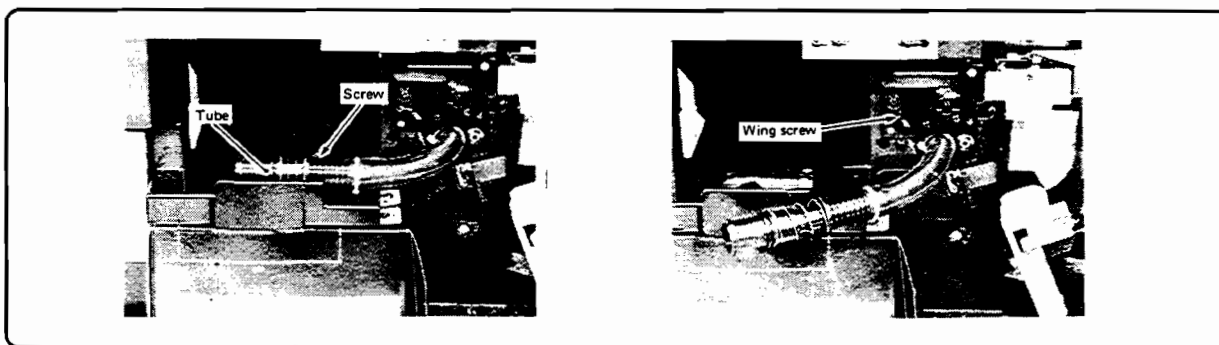

Figure 6-69. Cleaning Station Removal
2. Remove the screw to release the flexible tube from the top of the waste toner receptacle (Figure 6-69).
3. Remove the wing screw, slide the Cleaning Station assembly slightly out to the front until it stops; then tilt it counter-clockwise (Figure 6-69).